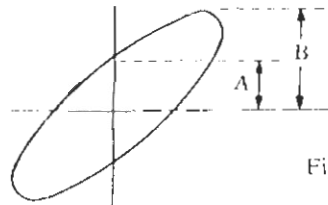

Fig. 3-8 Phase angle measurement.
3. Referring to Fig. 3-8, the phase angle is calculated from the following relation: